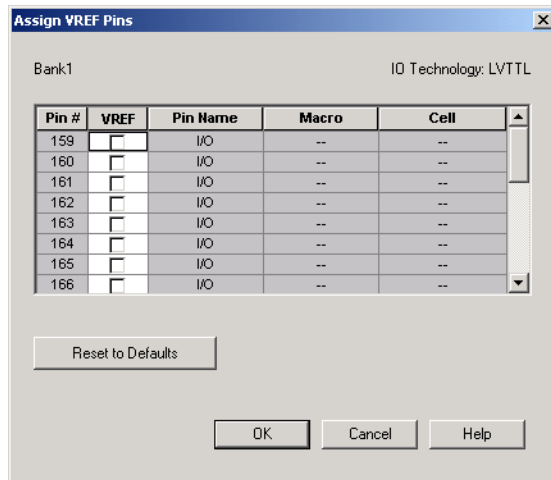

Figure 2-2. Assign VREF Pins Dialog Box
4. **Click the *Assign VREF Pins* button.** The Assign VREF Pins dialog box appears, as shown in Figure 2-2.